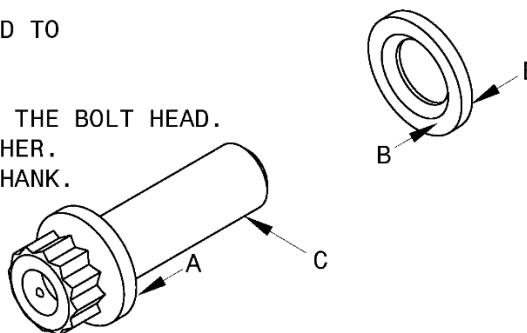

Figure 2 Apply anti-seize to brake assembly mounting hardware
- 1 The brake assembly fasteners (6X bolts and 6X washers) are components of the brake assembly and are packaged in the kit. Remove the fasteners from the packaging. Prior to installing, lubricate the fasteners with anti-seize compound, per MIL-PRF-83483 as shown in Figure 2.
- 2 Make sure anti-seize has been applied to the brake assembly fasteners (see Figure 2) and attach the brake assembly to the axle flange with the six washers and bolts. Torque the bolts to 335 to 345 in-lb.